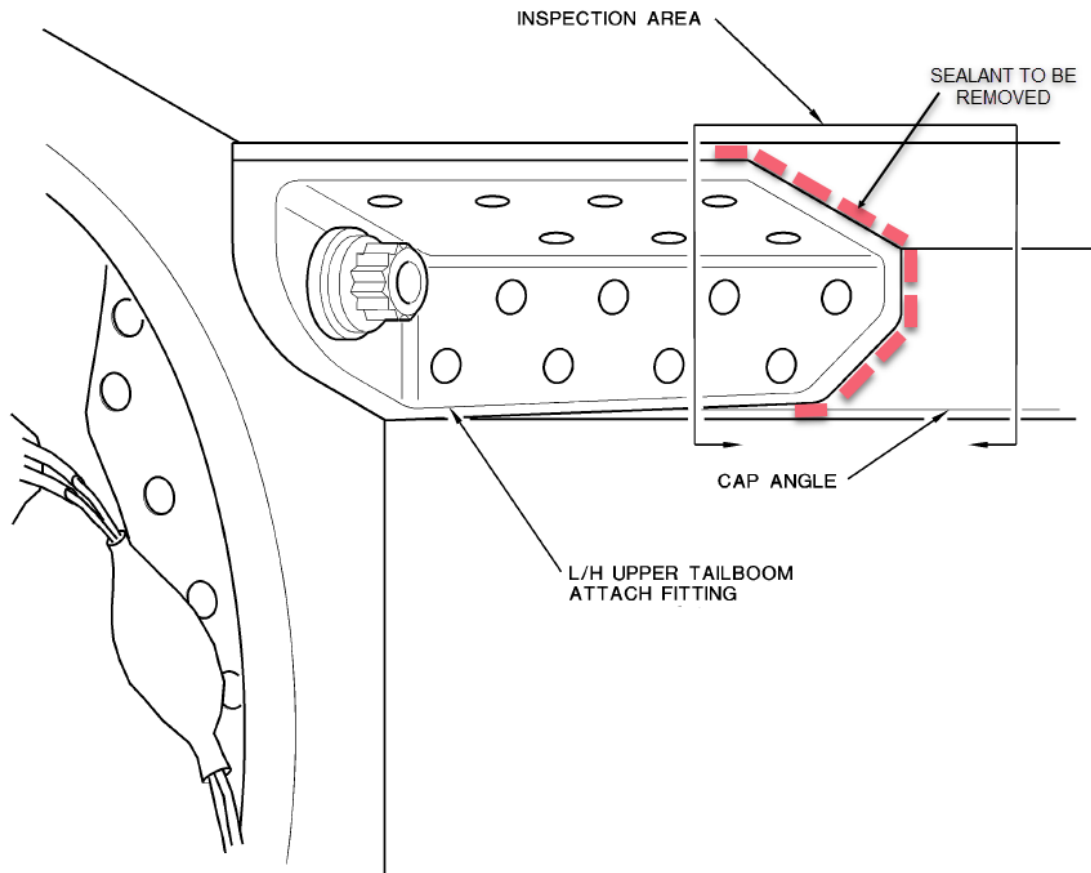

Figure1. Fuselage Tailboom Attachment Inspection.
2. Remove sealant from edge of fitting (Refer to Figure 1).
3. Inspect the cap angle area shown in Figure 1 with a 10x magnifying glass and bright light.